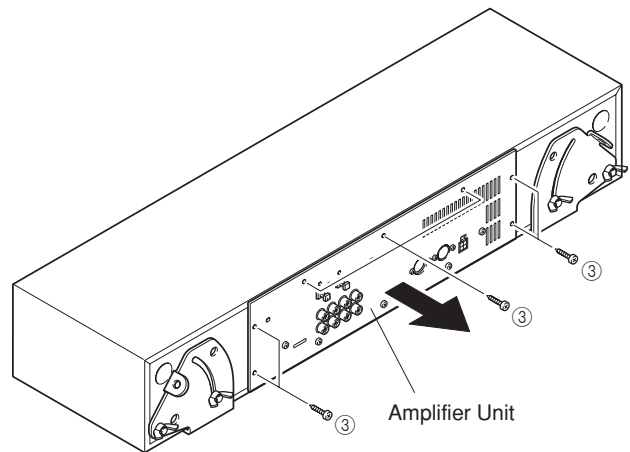

Fig. 2
- b. Remove 7 screws (③) and take out the Amplifier Unit and OPERATION P.C.B. in the arrow direction. (Fig. 2)